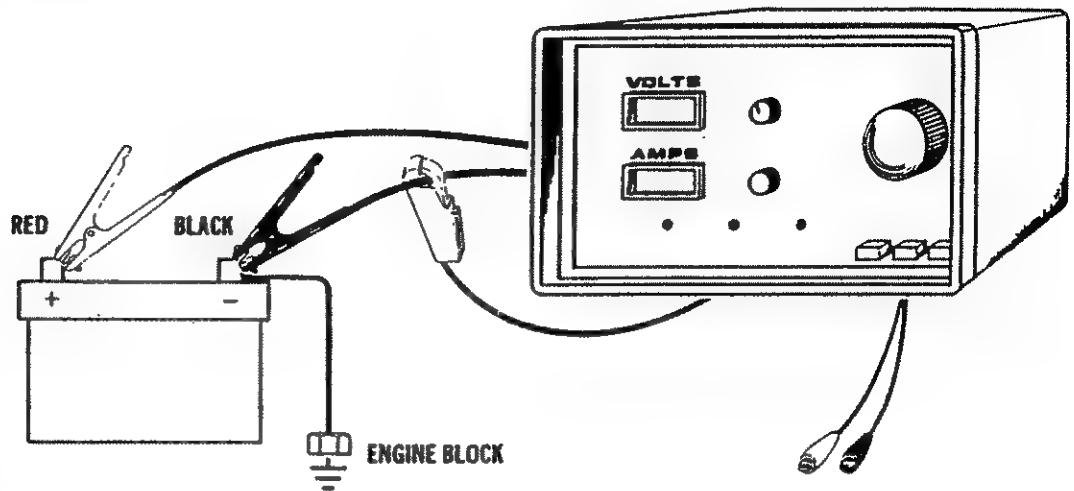

FIG. 5
5. Connect "Battery Cables" to Battery as shown in figure 5.